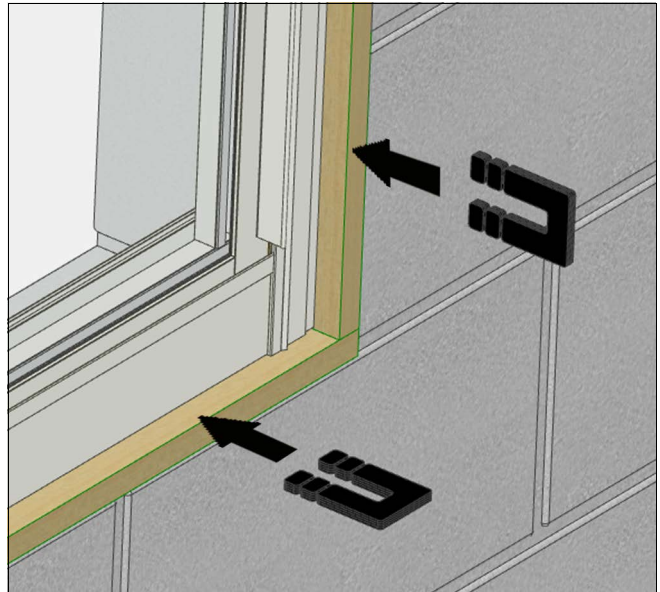

Figure 9
2. Lift and place the unit into the opening, with the flange securely against the opening surface. Then add shims to each corner to initially pin the unit. See Figure 9.